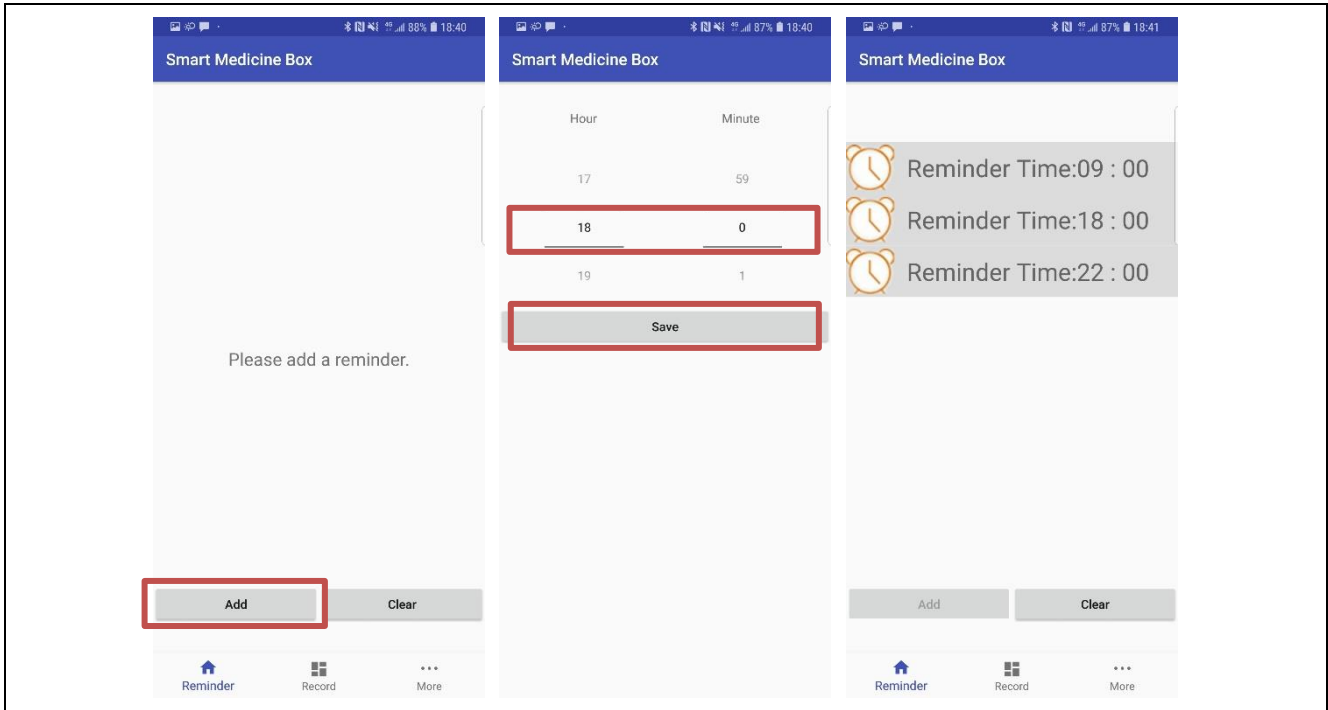

Figure 3.9 Setting Reminder time
(4) 3 reminder times (maximum) can be set on the mobile app and the message will be sent to the smart medicine box via MQTT to remind the patient to take the medicine. Each reminder time information will be also stored in Data Flash. Click “Add” button and select “Hour” and “Minute” on the reminder time setting page. When “Save” button is clicked, one reminder time will be set. This setting procedure is shown in Figure 3.9.